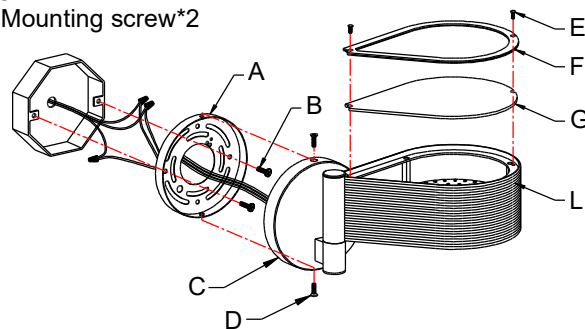

Fig. 2
3. Place glass (G) and iron plate (F) over housing (L) and secure with screws (E).
4. Loosen screws (D) to remove mounting plate (A) from fixture body (C).
5. Attach mounting plate (A) to the junction box (not included) using mounting screws (B) (SIZE: #8-32N, L0.5"). The side of mounting plate (A) marked "GND" must face out.
6. Connect the electrical wires as shown in Fig. 2, making sure that all wire connectors are secured. If your junction box has a ground wire (green or bare copper), connect the fixture's ground wire to it. Otherwise, connect the fixture's ground wire directly to the mounting plate (A) using the green screw provided. After the wires are connected, tuck them carefully inside the junction box.
7. Place fixture body (C) over mounting plate (A) and secure with screws (D).